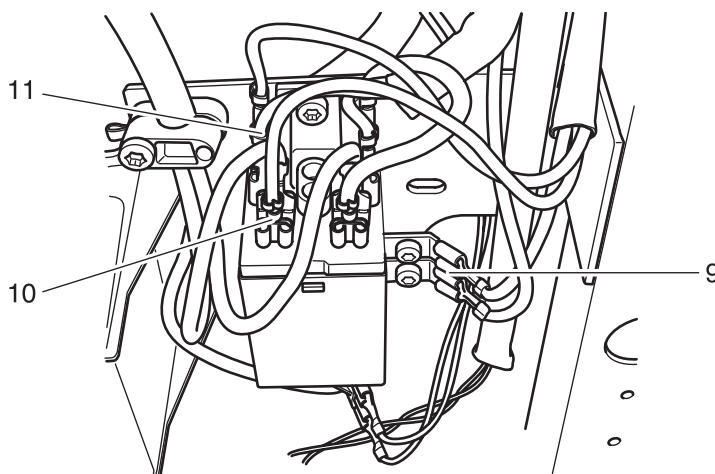

Fig. 13e
- Connect plugs 9 to 11 of the control panel (fig. 13e).